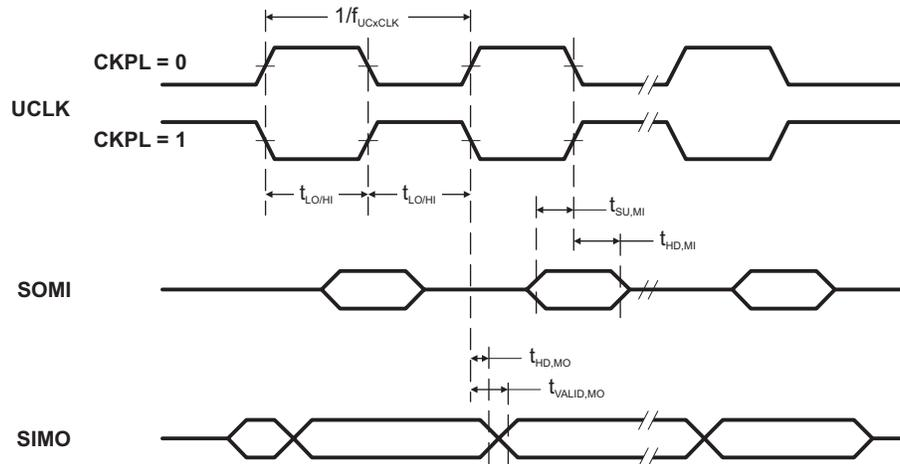

Figure 11. SPI Master Mode, CKPH = 0
(see Note (1), Figure 11 and )
- (2) Specifies the time to drive the next valid data to the SIMO output after the output changing UCLK clock edge. See the timing diagrams in Figure 11 and .
- (3) Specifies how long data on the SIMO output is valid after the output changing UCLK clock edge. Negative values indicate that the data on the SIMO output can become invalid before the output changing clock edge observed on UCLK. See the timing diagrams in Figure 11 and .